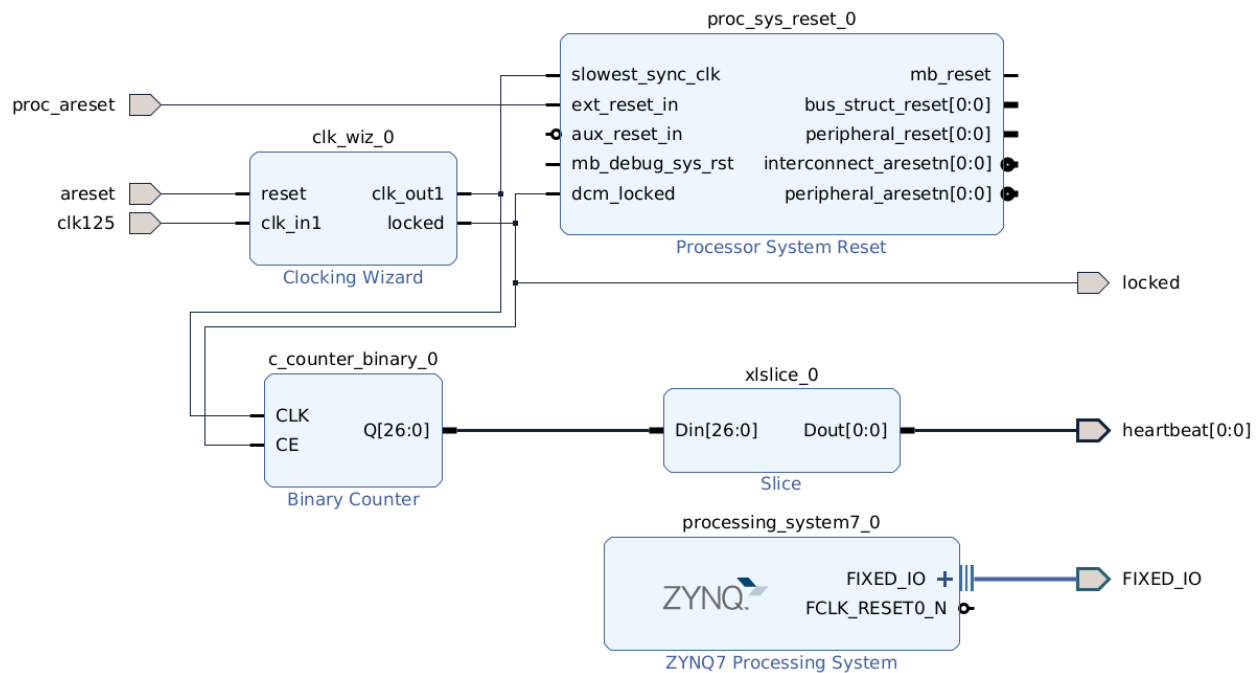

Figure 2: Expected block design view after running `build_bd.tcl`
4. The expected content in the block diagram is shown in Figure 2.